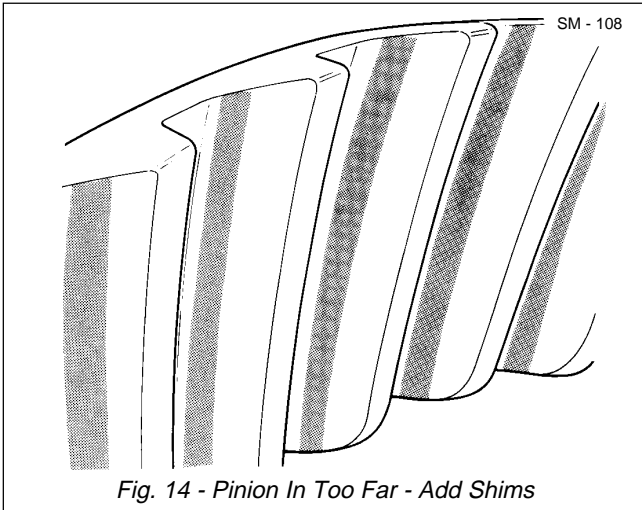

Fig. 14 - Pinion In Too Far - Add Shims
- d. If the contact area is along the root of the ring gear teeth, see Fig. 14, move the pinion out by adding shims.